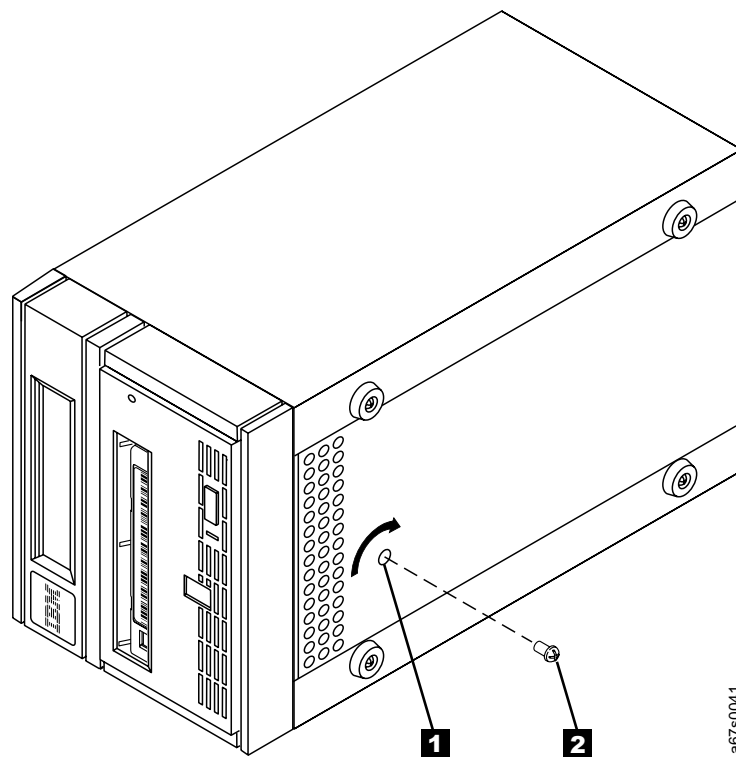

Figure 16. Removing the Screw from the Access Hole
2. Place the 3580 Tape Drive on its side and locate the access hole at the bottom of the unit (**1** in Figure 16).